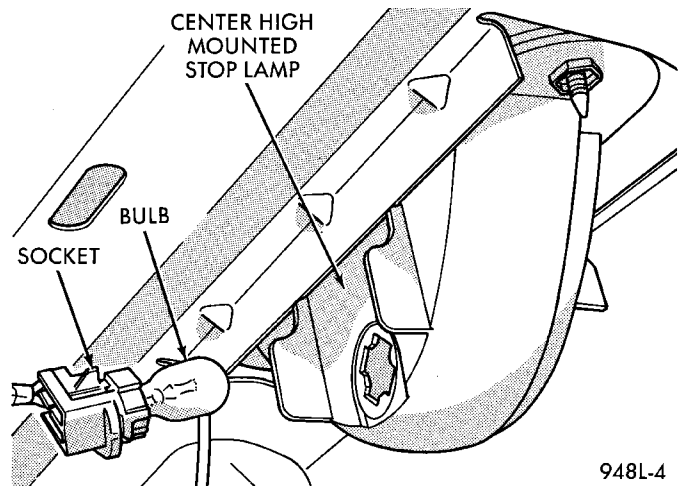

Fig. 5 CHMSL Bulb
- (1) Release trunk latch and open trunk lid.
- (2) Remove bulb socket from center high mounted stop lamp (Fig. 5).
- (3) Pull bulb from socket.